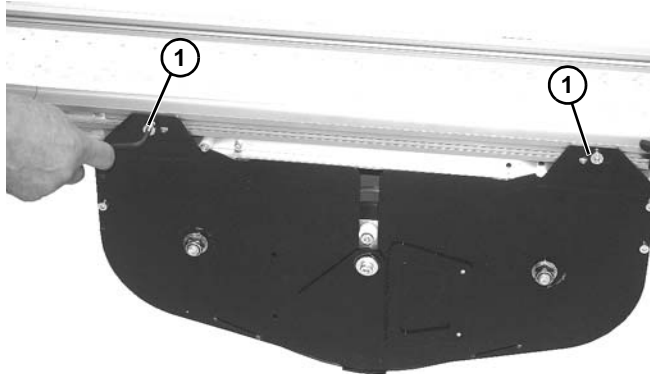

Figure 131
1. Remove two socket head screws (Figure 131, item 1) on each side securing assembly to frame.